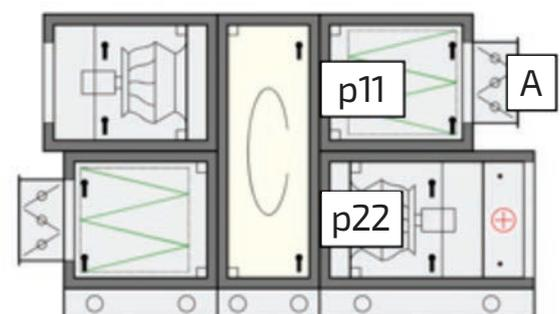

Figure 1: Stopping leakage by regulating damper (A) to correct pressures
There is an additional measure than can lower the EATR even further. REHVA's document⁴ *Limiting internal air leakages across the rotary heat exchanger* states that the 'next step to eliminate a leakage is to set the correct relation between pressures p22 and p11 [see Figure 1]'. This pressure can be achieved by regulating the exhaust damper (A) correctly positioned on the system side of the exhaust airstream (Figure 1). If the correct pressure is achieved for the recommended configuration, the EATR can be considered virtually zero.